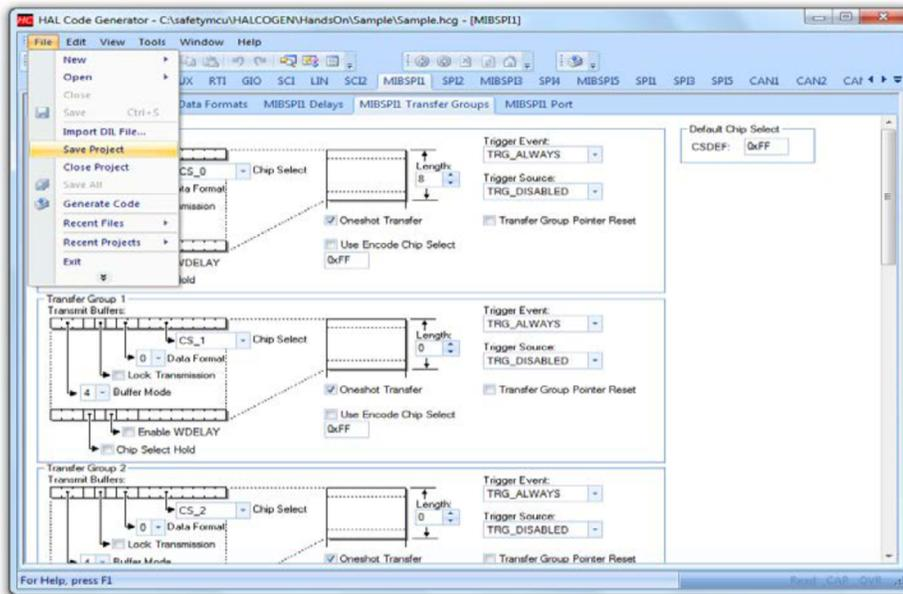

Figure 5. HALCoGen Module Configuration
2. Do the necessary configuration, save the project and close HALCoGen (see Figure 5).